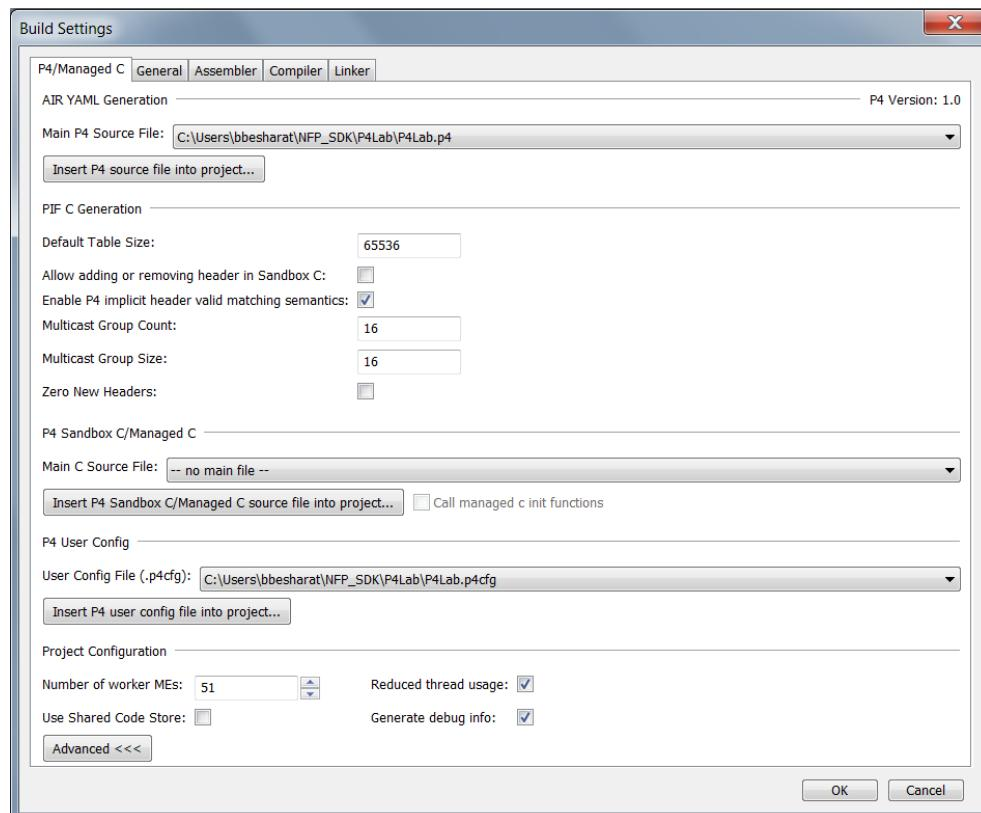

Figure 2.12. Build Settings P4/Managed C tab
2. Click the **P4/Managed C** tab if its not already selected (see Figure 2.12).